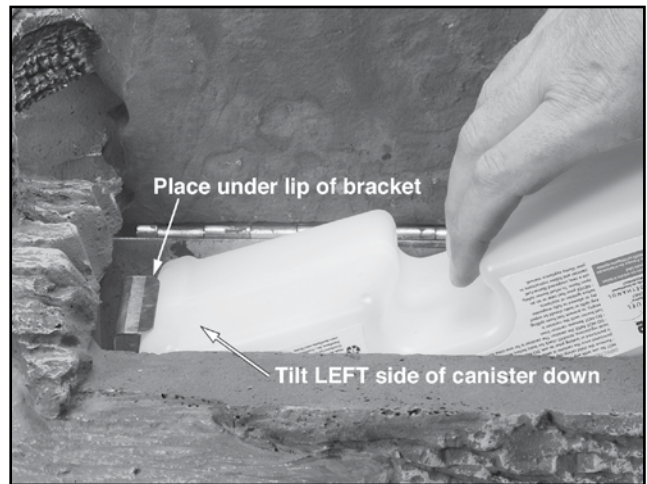

Figure 11
3. Invert the canister and position it so that the left end fits under the bracket at the left end of the canister tray (see Figure 11). Lower the canister so that the neck is aligned with the piercer hole in the tray at the bottom of the fuel canister compartment. Push down firmly on the canister until the piercer punctures the foil seal and the canister is seated firmly on the tray. To assist the flow of illuma-fuel from the canister, wiggle the canister back and forth slightly on the piercer. You might hear a soft gurgling noise as the fuel from the canister begins to fill the burner—this is normal.